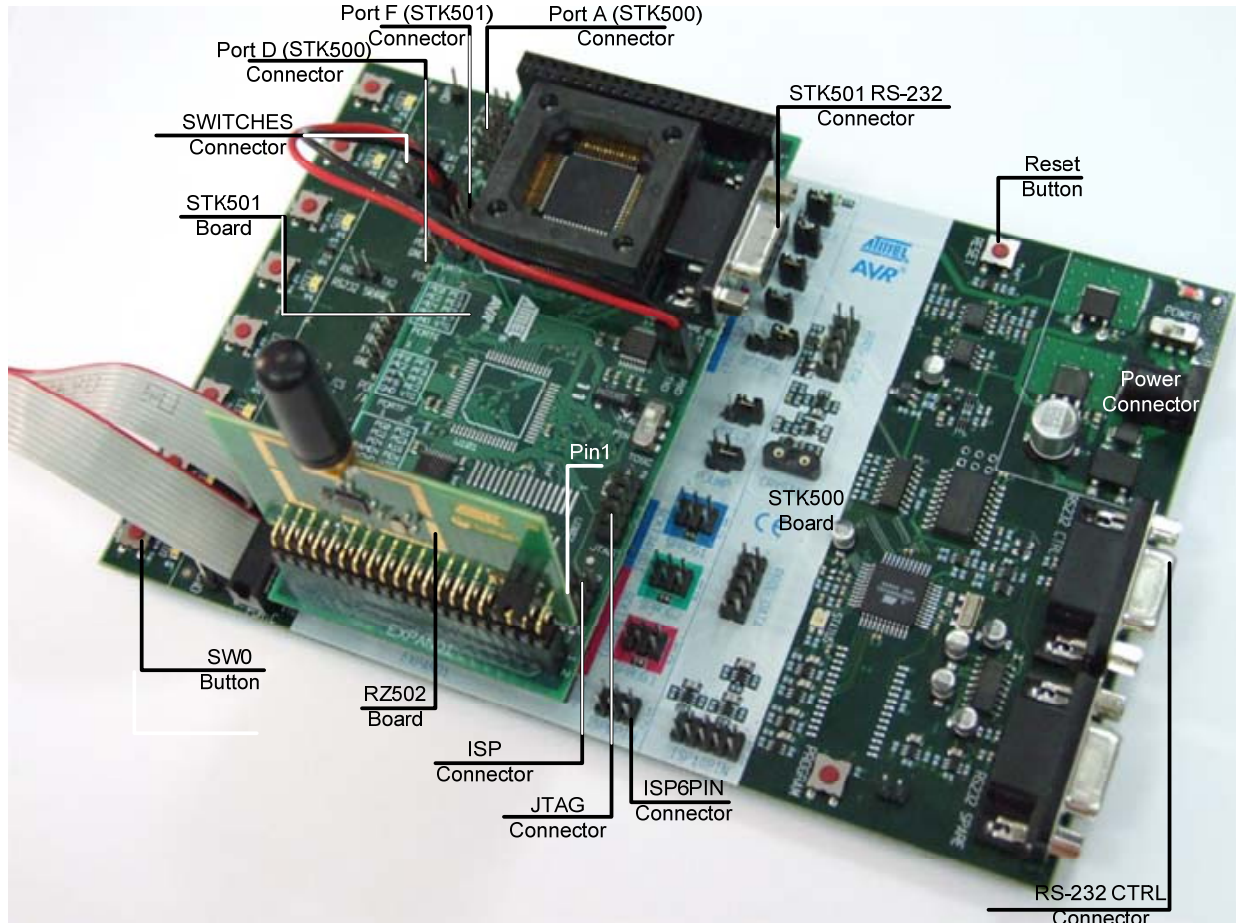

Figure 6. The RZ502/STK500/STK501 full hardware set assembly
5. Preparing the STK500 board, make sure that LEDS connector is bridged to PORTC connector with cable as shown in Figure 6.
8. Mount the RZ502 radio board onto the STK501 board using its EXPAND1 header and matching pin 1 on STK501 board (see Figure 6) with pin1 on RZ502 which pad is shaped squared.
Final assembly is shown for RZ502/STK500/STK501 set in Figure 6.
In order to program the device using ISP mode connect the 6pin cable between the ISP6PIN connector on the STK500 board and the ISP connector on the STK501 which is denoted by SPROG mark. The connectors are shown in Figure 6. Red wire should correspond to pin 6 at both connector sides. Make sure that RS232 port on PC is connected properly to CTRL port on STK500. Now, the device can be programmed in ISP mode using AVR Studio Software. Consider that the programming process will take substantial time. See [2] for additional information on how to use the STK500 front-end software for ISP programming.
Alternatively, to program the device by JTAG link an external JTAG emulator, for example JTAGICE mkII from Atmel¹ [9], with the STK501 onboard JTAG connector (see Figure 6). Start downloading process following instructions from [8] and [9]. The same fuse bits should be set as specified above for ISP mode. In this case the fuse bit controlling ISP frequency does not matter.
Before powering STK500, make SWITCHES connector (see Figure 6) and PORTA connector bridged with the cable. Press and hold the SW0 onboard button first. Turn power on the STK500 with holding the button pressed for at least 1 second. The LED1 will get flashing 3 times. Next LED0, LED1 and LED2 will start blinking for 2 sec to indicate accepting the channel mask in EEPROM.